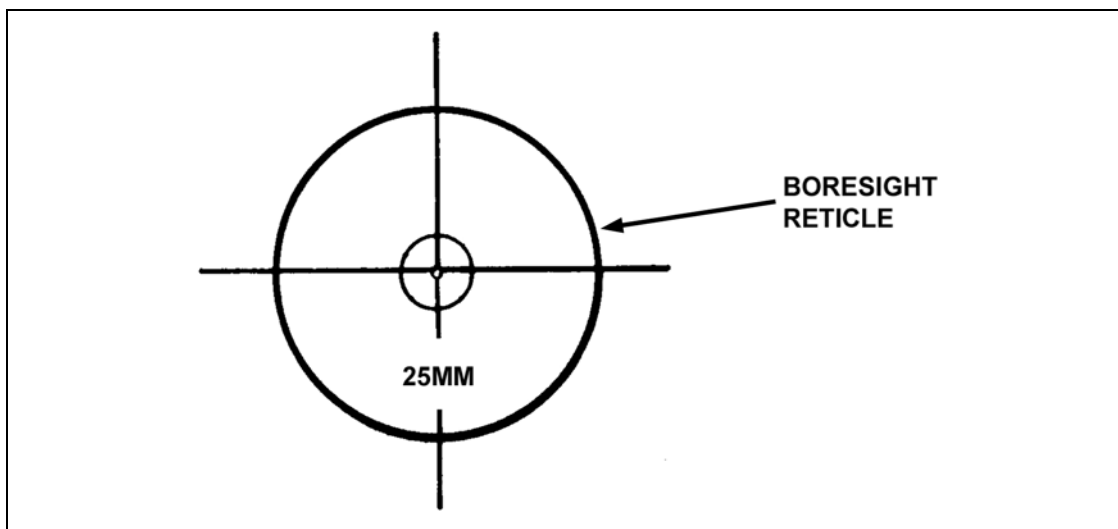

Figure B-45. Boresight reticle aligned with the 25-mm cross.
- (b) Tell gunner to align the boresight reticle with the 25-mm cross on the panel (Figure B-45).